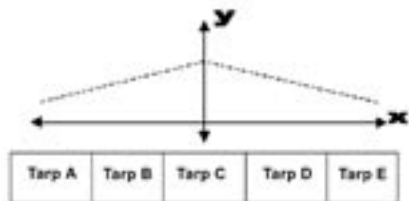

Figure 1: Tarp layout for swath width and distance method. Y indicates direction of travel.
2. Lay the tarps in a line perpendicular to the travel of the spreader (Figure 1). Fasten the tarps to the ground at each corner, overlapping about 1 inch.